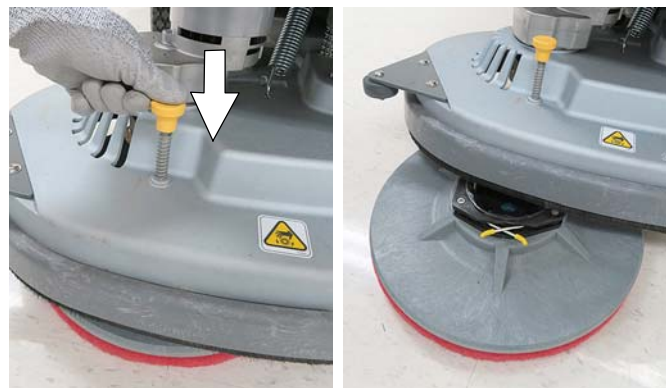

FIG. 15
5. To remove the pad drivers/brushes, raise the scrub head and press down on the yellow pad release plunger (Figure 15). Pad will drop to floor.